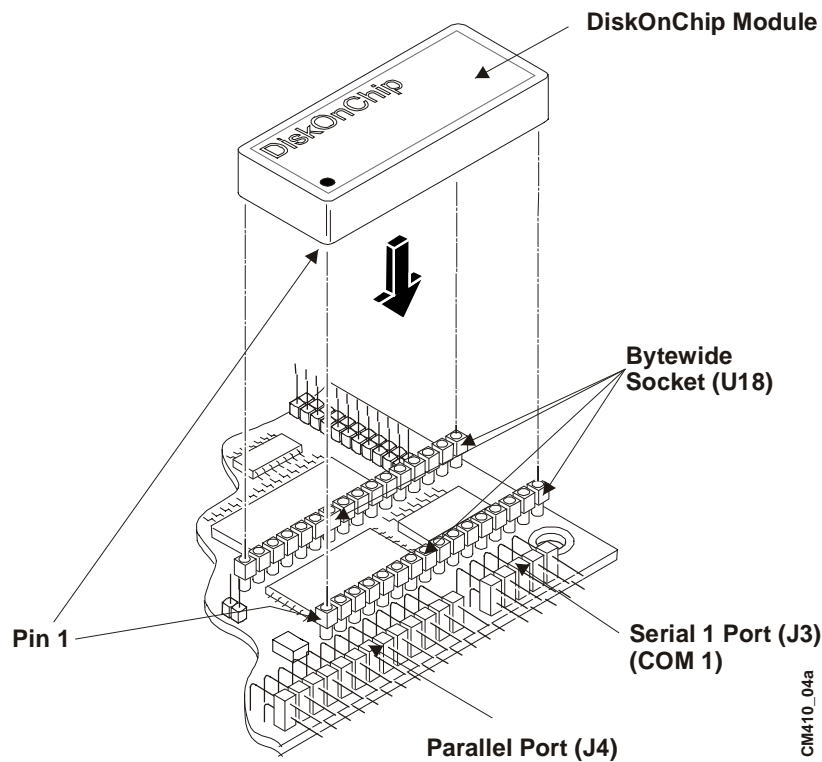

Figure 2-1. Installing DiskOnChip
4. Align pin one of the bytewise socket (U18) with pin 1 of the DiskOnChip. See Figure 2-1.
5. Gently insert the DiskOnChip into the bytewise socket (U18) as shown in Figure 2-1 and gently rock it side to side until it is firmly into the bytewise socket (U18).